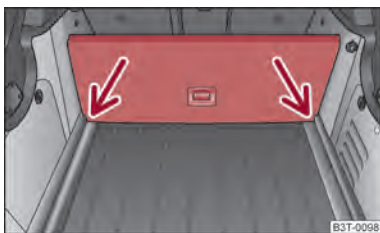

Fig. 75 Luggage compartment: Dividing the luggage compartment with variable loading floor
- Lift up the part with the holder and secure it by sliding it into the grooves ⇒ fig. 75.